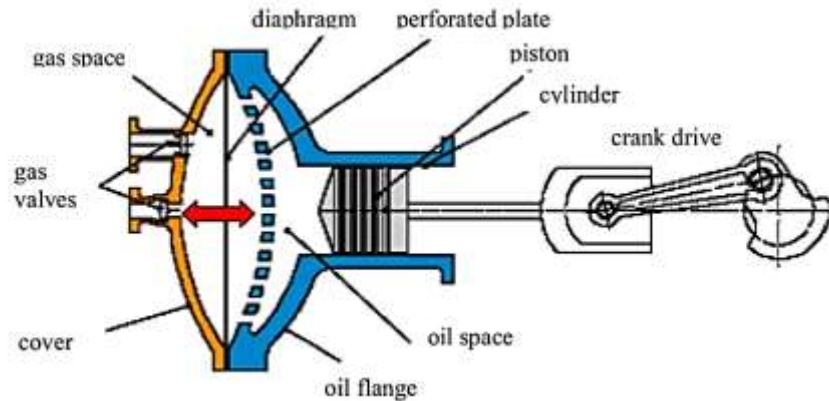

Fig.4.4 Diaphragm Compressor
- ▶ The operation of diaphragm compressor can be explained using Fig.4.4. There are two strokes, namely, suction stroke and delivery stroke. Suction stroke On the drive side, when the piston moves from left to right, the movement of piston and hydraulic oil causes the diaphragm also to move towards right till it touches the perforated plate.